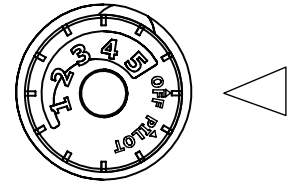

Fig. 25 - Control Knob
2. Turn control knob clockwise ↻ to the “OFF” position (See Fig. 25).
3. Wait five (5) minutes to clear out any gas. Then smell for gas, including near the floor. If you smell gas, STOP! Follow “B” in the safety information above. If you don’t smell gas, go to the next step.